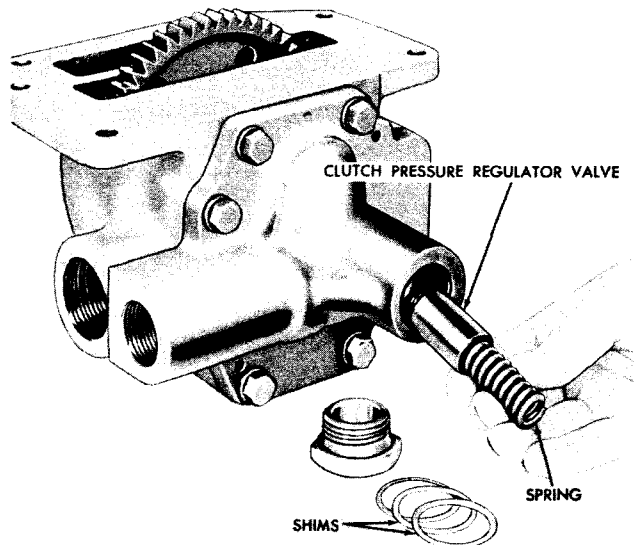

Fig VI-46. Removing (or installing) clutch pressure regulator valve
(3) Prior to S/N 28039: Remove the remaining plug, shims, spring and valve (fig. VI-46).
(13) Install the spring. Install the annular gasket on the plug and install the plug in the converter pressure regulating valve bore, making certain that the valve spring is properly seated in the plug.
(14) Prior to S/N 28039: Install the clutch pressure regulator valve (closed end first) and spring (fig. VI-46). Replace the same shims removed at disassembly and the plug.